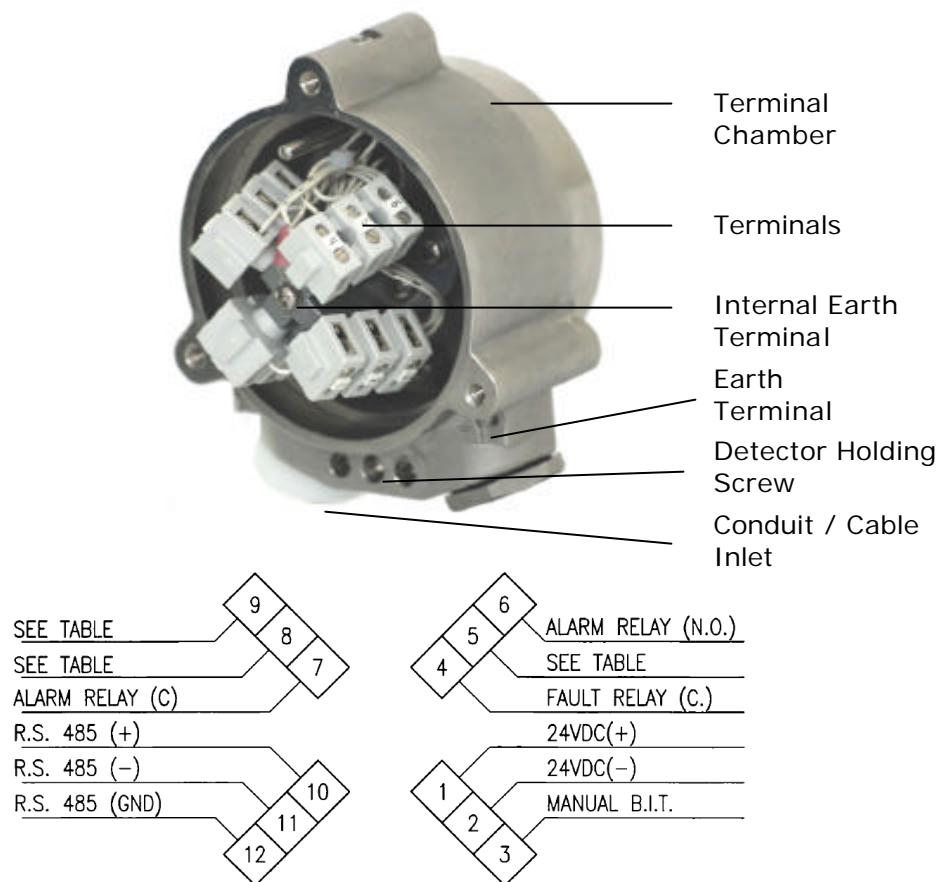

Figure 7: Detector with Cover Removed
This section describes how to connect the electric cabling to the detector (Figure 7).
- 19 Connect the wires to the required terminals on the Terminal Board according to the wiring diagram (Figure 7) and Table 17.
- 22 Check the wires for secure mechanical connection and press them neatly against the terminal to prevent them from interfering while closing the back cover (Figure 7).